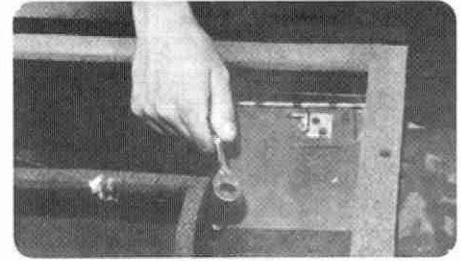

Figure 19
26. Using the remaining two center support panel screws, add a flat washer and reinstall from the inside to hold the "recirc" door in place (Figure 19).